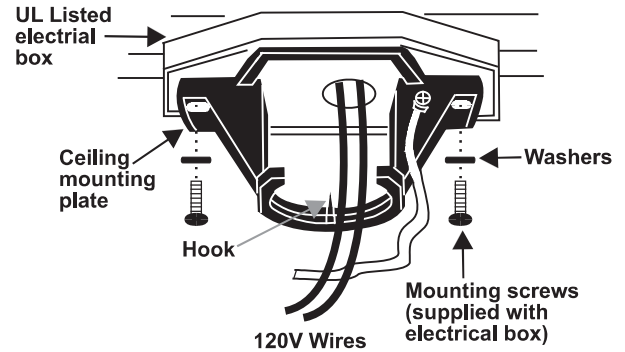

Fig.8
Step 1. Pass the 120-volt supply wires through the center hole in the ceiling hanger bracket as shown in (Fig.8)
2. Pass the 120-volt supply wires through the center hole in the ceiling hanger bracket as shown in (Fig. 8)
3. Secure the hanger bracket to the ceiling outlet box with the screws and washers provided with your outlet box. (Fig. 8)